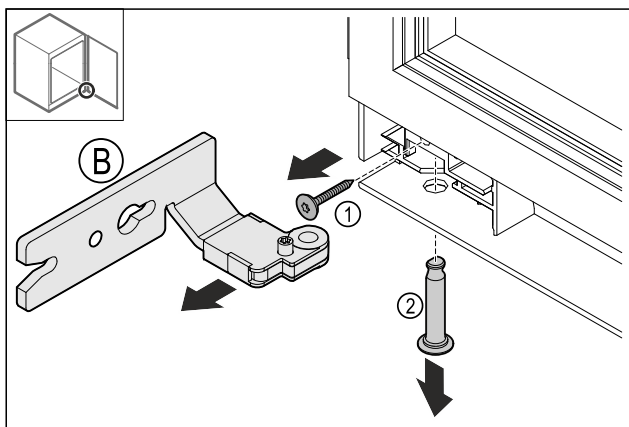

Fig. 15
- ▶ Retirer la vis Fig. 15 (1).
- ▶ Retirer le boulon Fig. 15 (2).
- ▶ Retirer la charnière Fig. 15 (B).